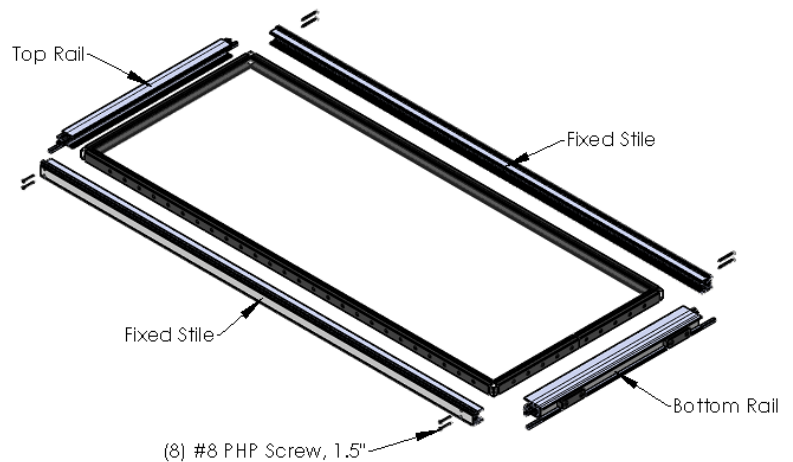

Figure 9:
3. Finish assembly by inserting (8) #8 x 1.5” pan head screws into the fixed stile screw grooves in the top and bottom rails (Figure 9).